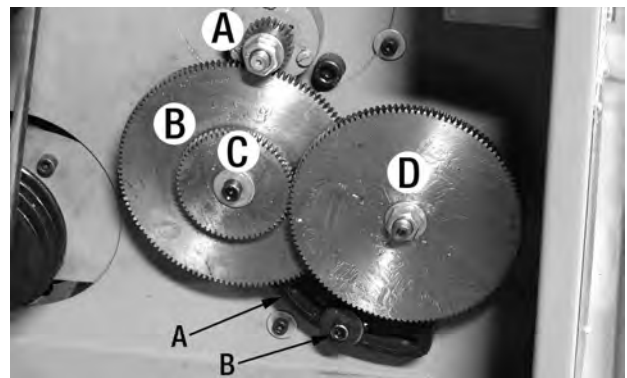

FIGURE 32
8. Rotate the support arm (A) Fig.32 until gears B and A are engaged. Tighten the cap screw (B) at the bottom of the gear support arm. Fig.32 shows the gears properly aligned and engaged.